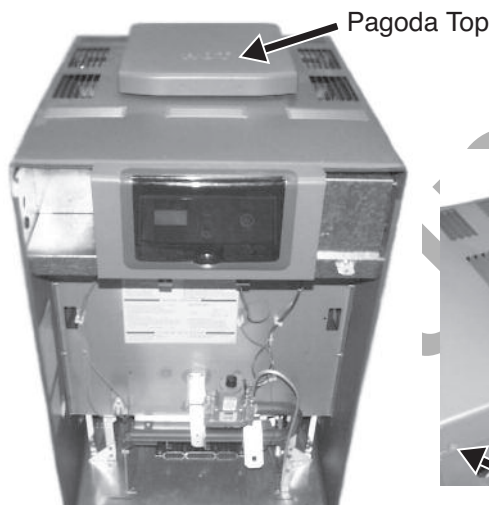

Fig. 2
3. If this is a retro-fit application, remove existing "Pagoda Top" and discard. See Fig. 2. If equipped with a draft hood, refer to draft hood installation manual for removal process.